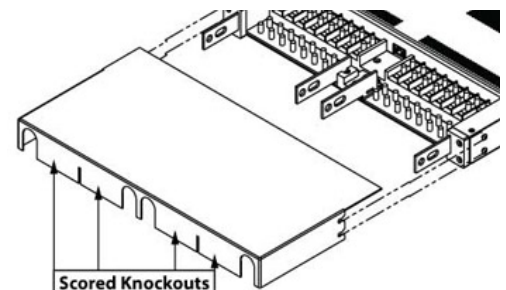

Figure 12. Safety cover
- Step 2.** Slide the cover onto the mounting screws protruding from the sides of the panel to snap into place (see Figure 12).